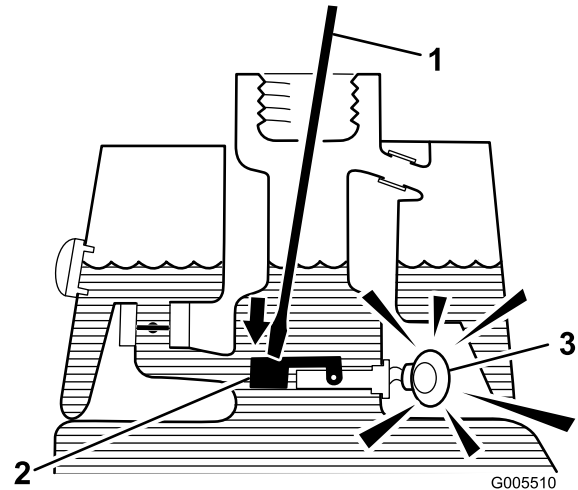

Figure 28
3. Insert a clean rod or screwdriver into the tank neck and gently push down on the switch float (Figure 28). The alarm should sound after the one-second delay.